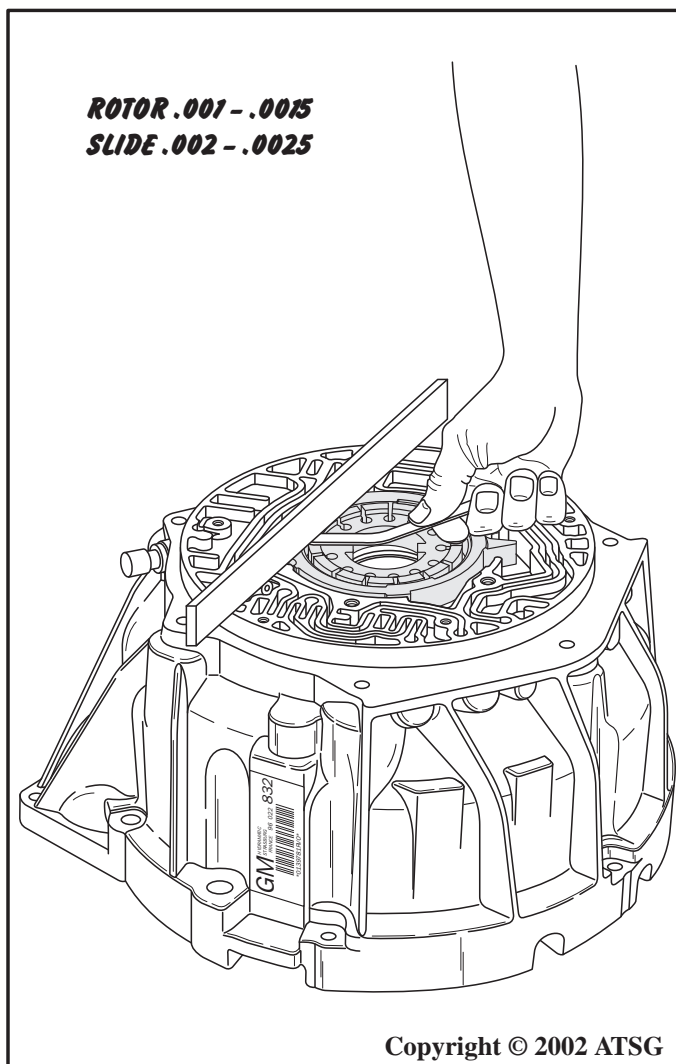

Figure 61
13. Lay a straight edge across the surface over the slide and rotor, as shown in Figure 61.
14. Measure the clearance between the slide and the straight edge, as shown in Figure 61. The clearance should be .002"-.0025" with no seals in the slide.
15. Measure the clearance between the rotor and the straight edge, as shown in Figure 61. The clearance should be .001"-.0015".